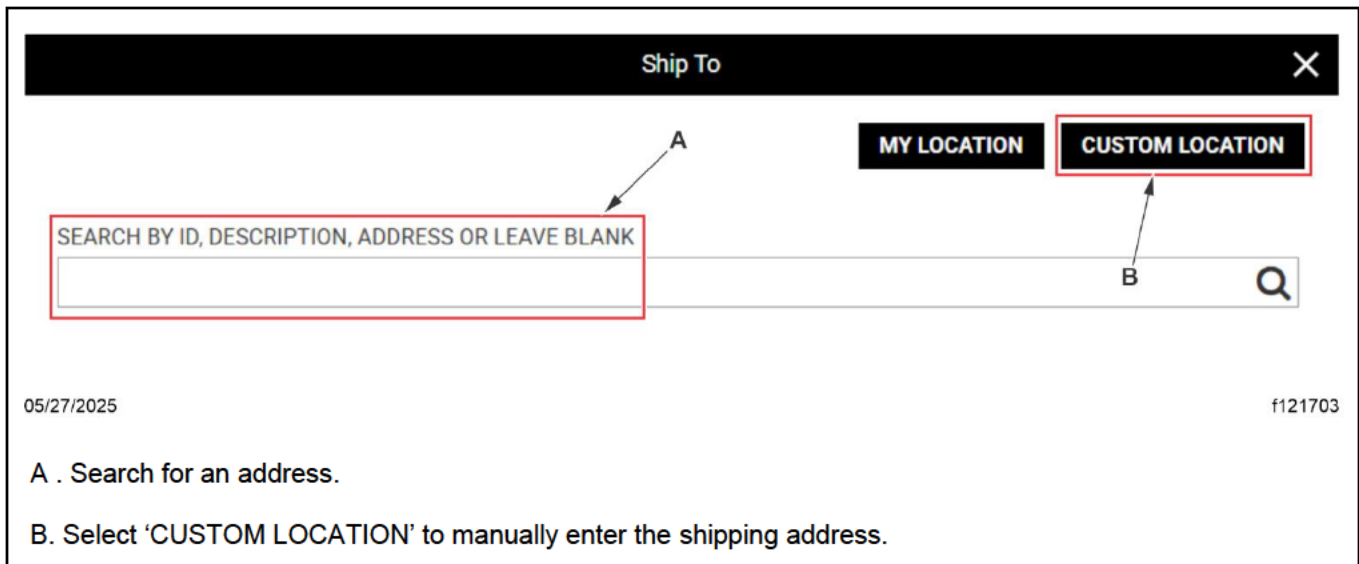

Fig. 10, Entering a Different Shipping Address
- 10.2. A pop-up window appears. Search for an address or select 'CUSTOM LOCATION' to manually enter the shipping address. See Fig. 10.